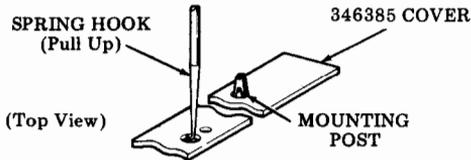

Fig. 20—Cover Removal
- (d) Remove the circuit card cover located in front of the control keys from the channel. Use a spring hook to remove the cover from the mounting posts (Fig. 20).